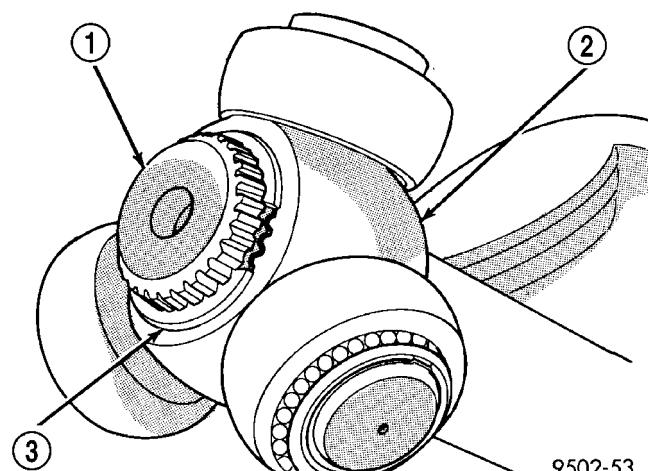
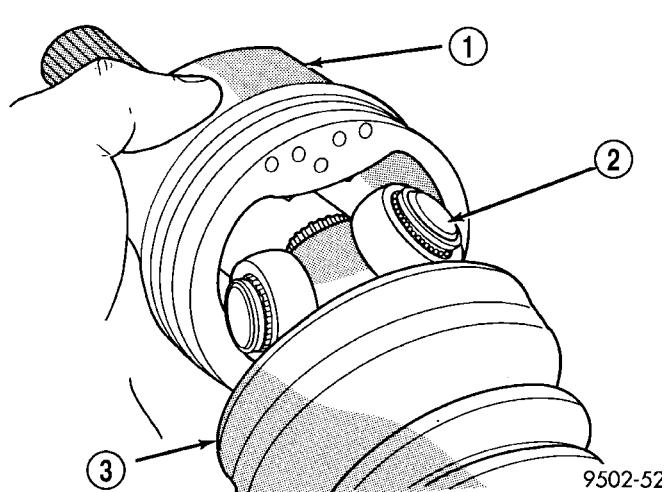
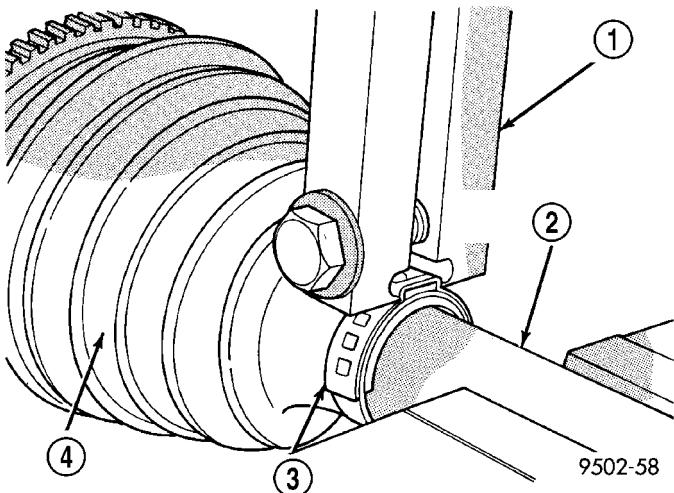

Fig. 35 Spider Assembly Retaining Snap Ring Installed
Fig. 36 Installing Tripod Housing on Spider Assembly
Fig. 37 Crimping Tool Installed on Sealing Boot Clamp
(3) Install the spider assembly to interconnecting shaft retaining snap ring into groove on end of interconnecting shaft (Fig. 35). Be sure the snap ring is fully seated into groove on interconnecting shaft.
(4) Distribute 1/2 the amount of grease provided in the seal boot service package (DO NOT USE ANY OTHER TYPE OF GREASE) into tripod housing. Put the remaining amount into the sealing boot.
(5) Align tripod housing with spider assembly and then slide tripod housing over spider assembly and interconnecting shaft (Fig. 36).
(6) Install inner tripod joint seal boot to interconnecting shaft clamp evenly on sealing boot.
(7) Clamp sealing boot onto interconnecting shaft using crimper, Special Tool C-4975-A and the following procedure. Place crimping tool C-4975-A over bridge of clamp (Fig. 37). Tighten nut on crimping